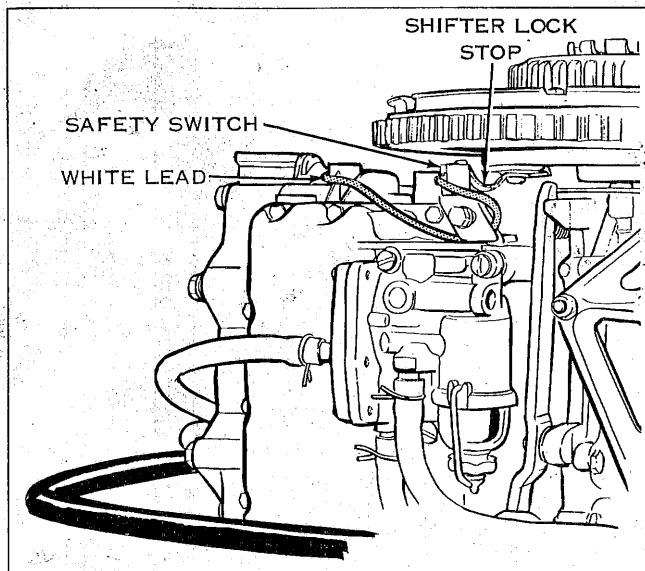

FIGURE 9
25. Attach safety switch to bracket with the two screws provided. Attach bracket and safety switch to exhaust cover with screw provided in kit. See Figure 9.